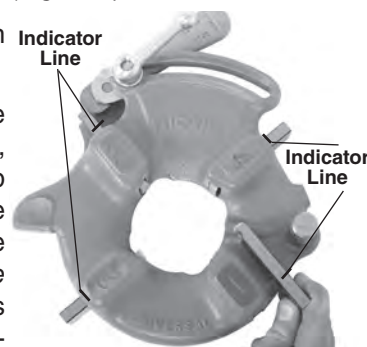

Figure 7 – Inserting Dies
6. Insert appropriate dies into the die head, numbered edge up until the indicator line is flush with the edge of the die head (see *Figure 7*). Numbers on the dies must correspond with those on the die head slots. Always change dies as sets – do not mix dies from different sets.